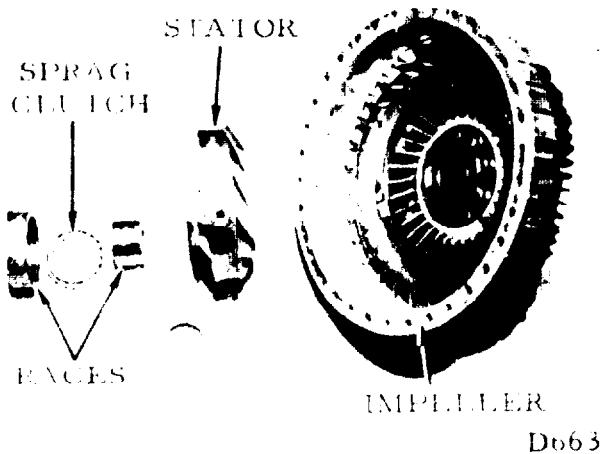

FIGURE 7-4.
(see figure 7-4).
**7-10. REASSEMBLY OF TORQUE CONVERTER (see figures 7-4 and 7-5).**